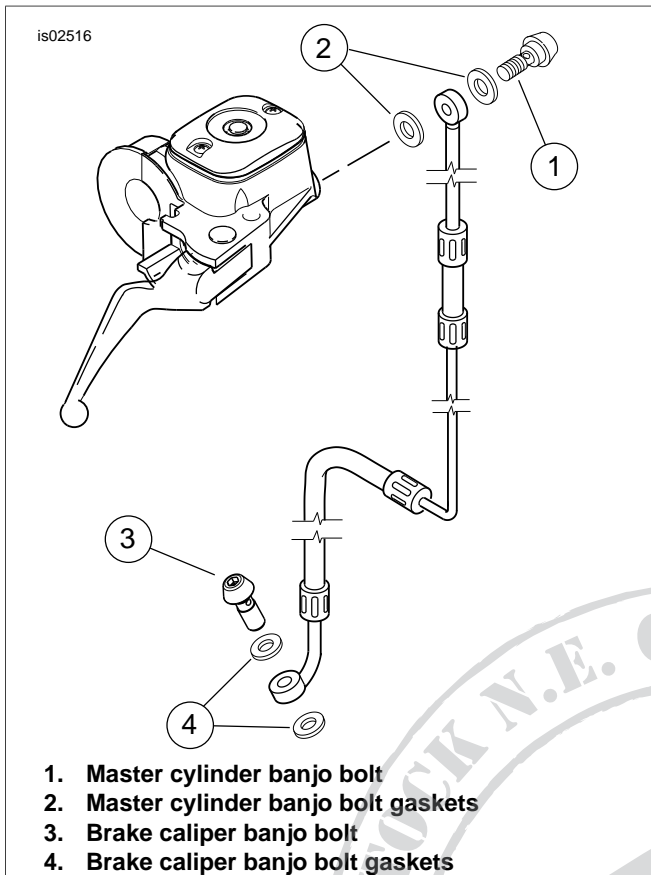

Figure 1. Install Banjo Bolts
3. Install **new** steel/rubber gaskets (4), brake line and banjo bolt (3) onto the caliper in the order shown in Figure 1. Tighten banjo bolt to 17-22 ft-lbs (23.0-29.8 Nm).
4. Remove the banjo bolt (1) and steel/rubber gaskets (2) to detach front brake line from master cylinder. Discard gaskets and banjo bolt.
6. See Figure 1. Position a new steel/rubber gasket (2) on each side of brake line banjo fitting. Insert banjo bolt (1) through washers and fitting. Thread bolt into master cylinder housing. Tighten to 17-22 ft-lbs (23.0-29.8 Nm).